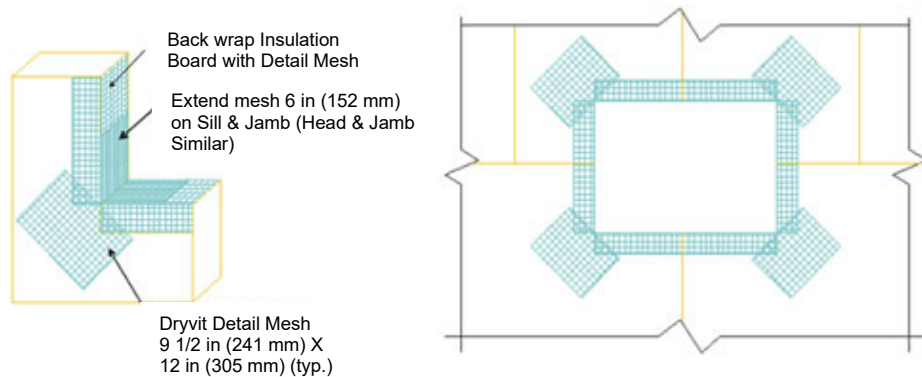

Figure 18
- 19. Corners of all openings such as windows, doors, mechanical equipment and all penetrations shall be reinforced with Detail Mesh placed diagonally to the opening as illustrated in Figure 18.